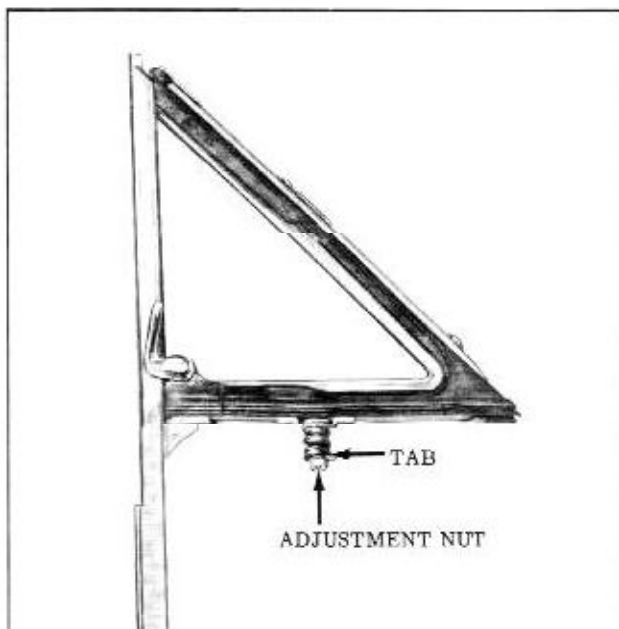

Fig. 15-31 Ventilator Friction Adjustment
2. The effort required to open or close the ventilator may be increased or decreased by bending up washer tab and tightening or loosening the adjusting nut. (Fig. 15-31)